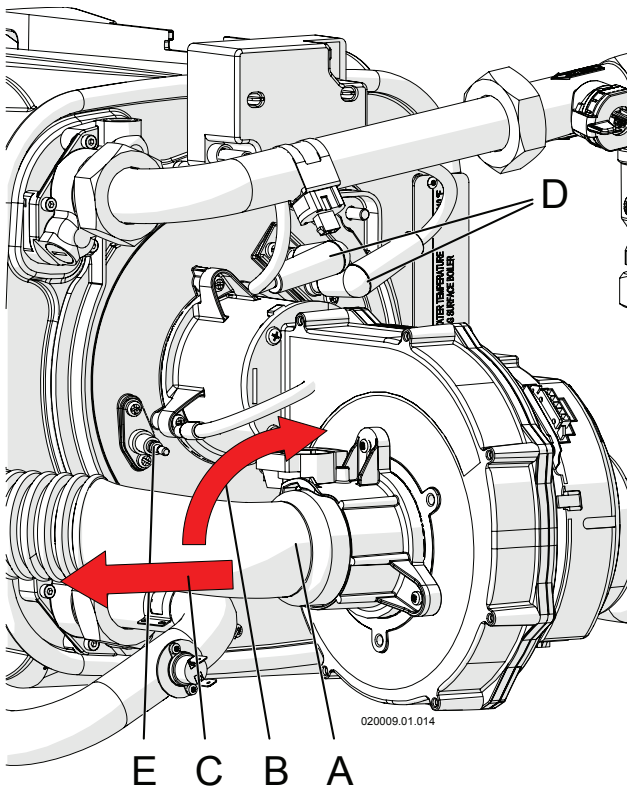

Figure 15-3 - Air manifold disassembly
- 4.- disassemble air manifold "A" in Figure 15-3, turning it clockwise then removing it towards the left;